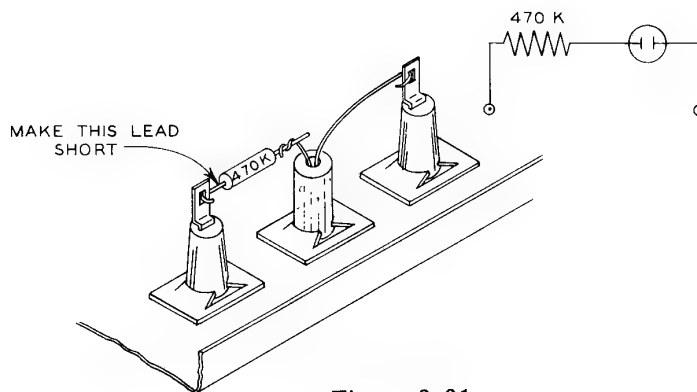

Figure 3-31
- (✓) Connect the 470 K resistor (yellow-violet-yellow) to one of the red banana jacks next to the neon bulb. Attach one wire from the bulb to the other end of the resistor and the other wire from the bulb to the second red banana jack, Figure 3-31.